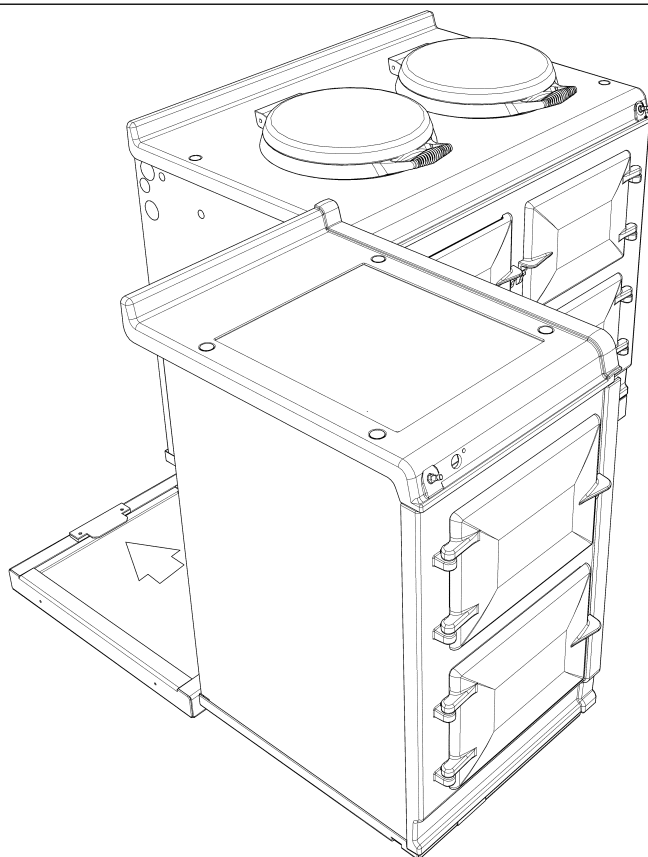
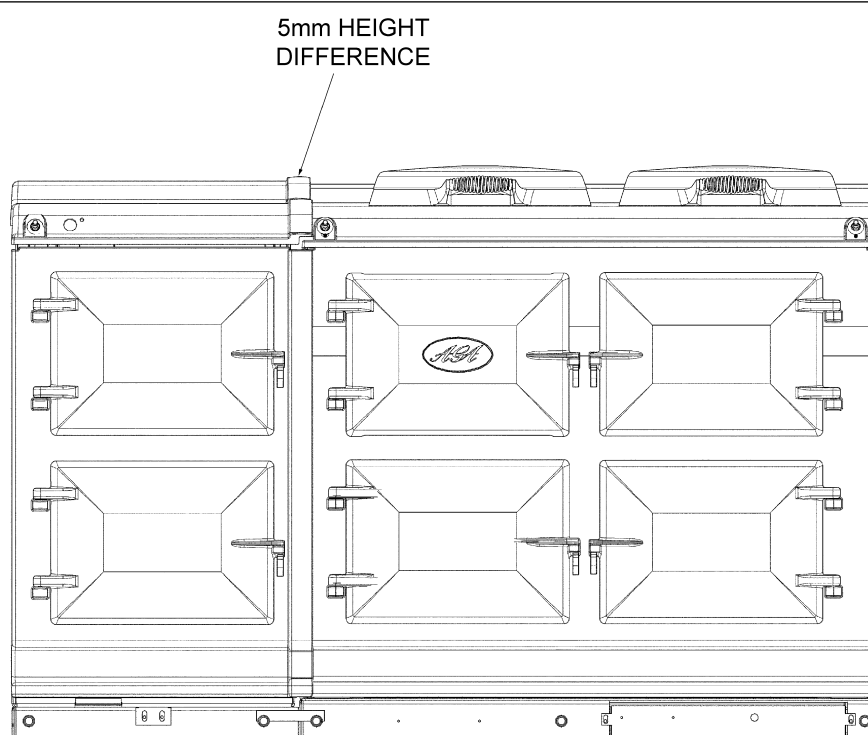

Fig. 1.17
Fig. 1.18
6. Slide hotcupboard onto plinth until rear tongue bracket engages fully into rear of base slot, (See **Fig. 1.17**). Ensure the appliance is aligned squarely with the plinth then proceed to engage the front tongue bracket into the slot on the underside of the base plate. Once satisfied that the front tongue bracket is engaged fully lock it into place by tightening the two M6 screws fully. Ensure that the electrical cable does not come into contact with oven vent pipe from the AGA DC3.
7. The hotcupboard top plate is set 5mm higher than the AGA Dual Control top plate. This is to prevent damage to the enamel during installation. Lower the top plate using the adjusters (See **Fig. 1.17** & **Fig. 1.18**).